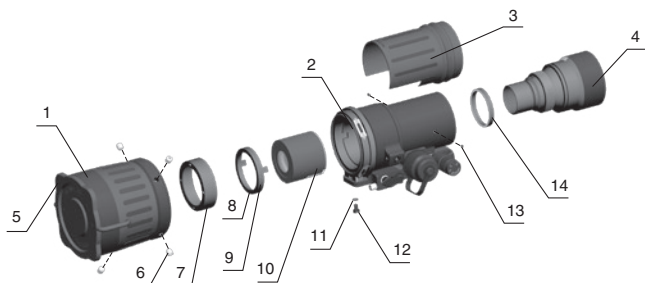

FIGURE D-1. VARIABLE GAIN TUBE REPLACEMENT
- Loosen four objective adjustment screws (Figure D-1, 6).
- Unscrew the lock ring (Figure D-1, 2).
- Remove the objective lens (Figure D-1, 1).
- Unscrew the lock ring (Figure D-1, 7).
- Draw out the orienting sleeve (Figure D-1, 9).
- Apply small amount of sealant onto the internal surface of the orienting sleeve (Figure D-1, 9).
- Place the orienting sleeve onto the front end of the tube. Be sure to engage the sleeve pin (Figure D-1, 8) into the tube key.
- Apply small amount of thread locker and screw the locking ring (Figure D-1, 7). Do not over tighten it.
- Carefully separate the rubber cover (Figure D-1, 3) from the sight body and remove it.
- Loosen and remove two fixing screws (Figure D-1, 13).
- Unscrew the output lens (Figure D-1, 4), remove old adjustment ring (Figure D-1, 14) and replace by a new one.
- Take off the objective lens cap (Figure D-1, 5) and place it over the lens housing.
- Remove the purge screw (Figure D-1, 12) with the O-ring (Figure D-1, 11).